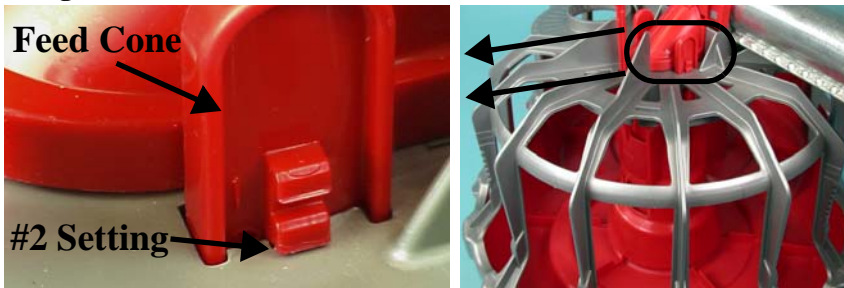

Figure 2. Feed Cone Level #2 Setting
3. Verify feed cone level setting is at the appropriate level. Chore-Time recommends #2 setting on all feeders to maintain a proper feed charge, see Figure 2.